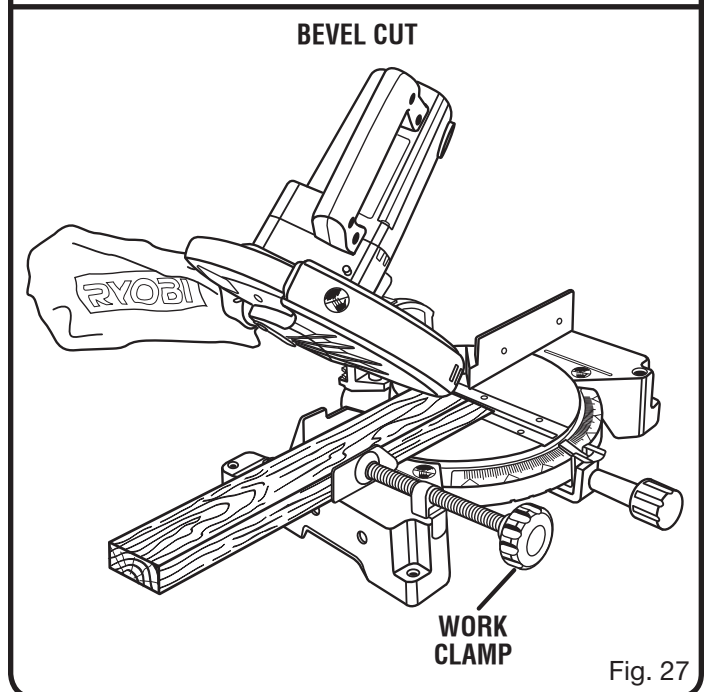

Fig. 27
- Grasp the stock firmly with one hand and secure it against the fence. Use the optional work clamp or a C-clamp to secure the workpiece when possible. *See Figure 27.*